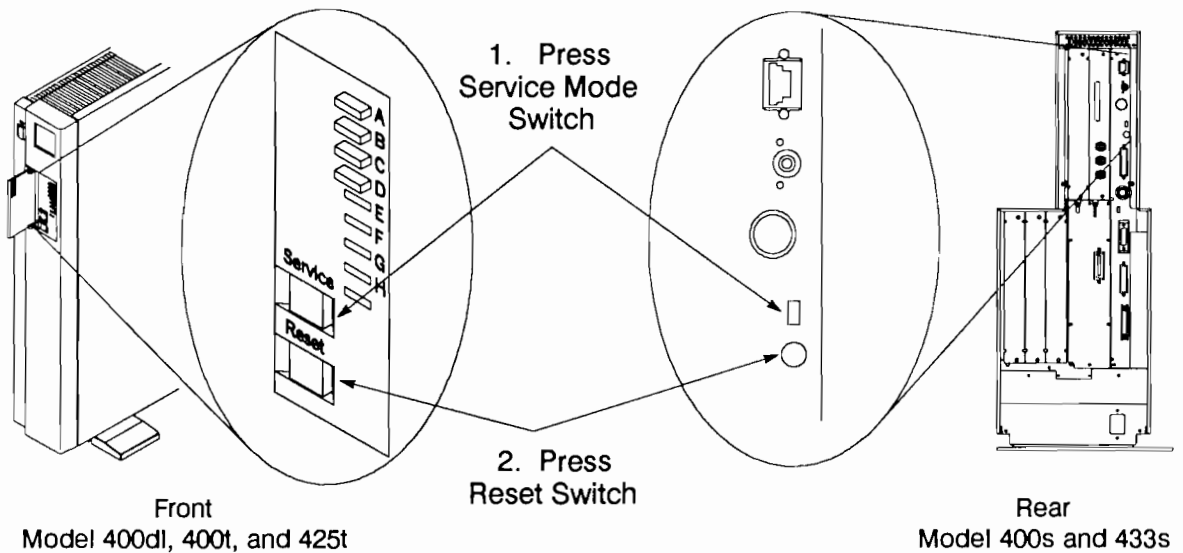

Figure 10-7. Starting a Disked Workstation in Service Mode
1. Before the system finishes the self tests, press the Service mode switch to set the system to Service mode (the Service LED on the system's front panel lights). Then press the Reset switch as shown in Figure 10-7. Press the **RESET** key until the screen displays the Mnemonic Debugger (MD) ">" prompt.